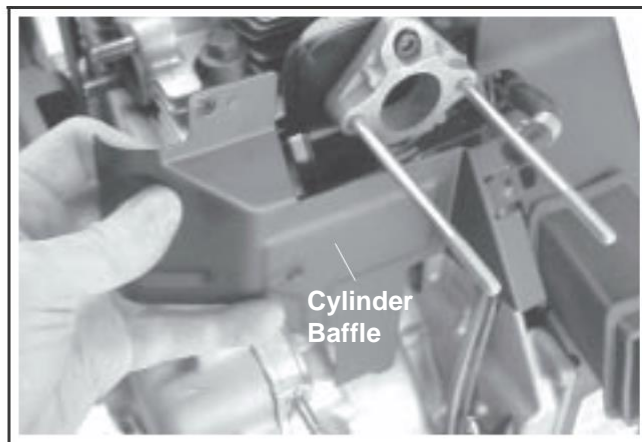

Figure 9-24. Removing Intake Side Cylinder Baffle.
1. Remove the hex flange screws from the blower housing and baffles. Disconnect the wire harness from the key switch, if equipped. Remove the blower housing, intake tube and baffles. See Figures 9-24, 9-25, and 9-26.